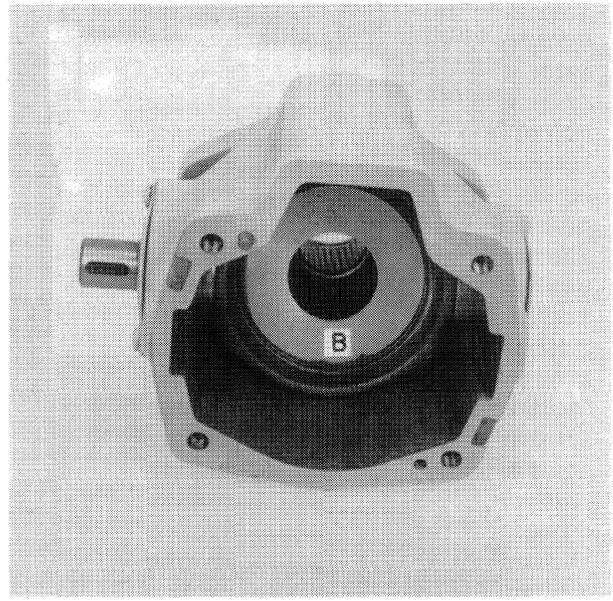

FIGURE 4-7
9. To remove cam plate, B, Figure 4-7: